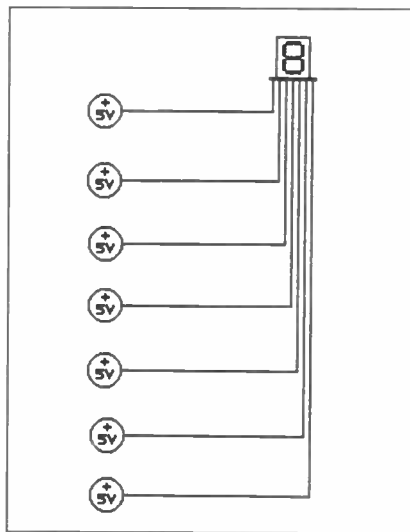

Fig. 7.31 Circuit for Assignment 7.3.
1. Connect the circuit shown in Fig. 7.31.